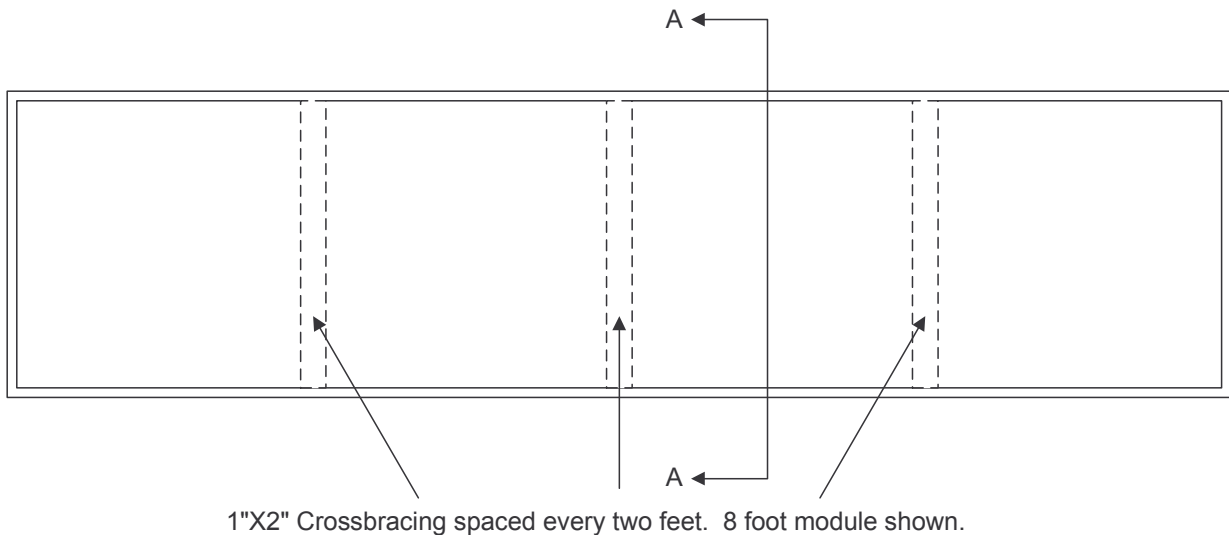

FIG 2. - MODULE CONSTRUCTION USING 2" FOAM
4.1.6.1 Sub-roadbed shall consist of ½" plywood or 2" dense foam insulation to prevent warping. If 2" foam is used, it must be braced as shown in Figure 2.
5.2* Modules shall be wired according to Figure 2. All electrical connections shall be soldered and insulated with heat-shrink tubing or tape. No section of mainlines or passing track shall depend on power being fed through bridge tracks.